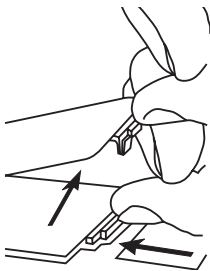

Figure 2-3. Installing new batteries.
3. Install new batteries, paying attention to the polarity markings on the inside of the battery well. See Figure 2-3. Then close the battery compartment.